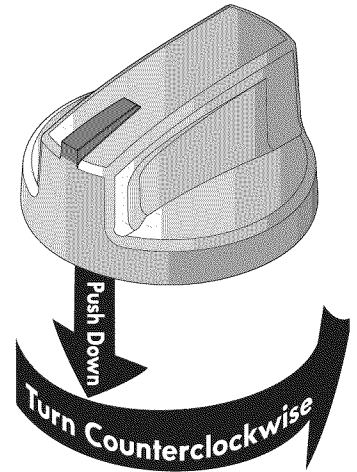

Figure 2
2. Push the surface control knob down and turn **counterclockwise** out of the OFF position (See Figure 2).